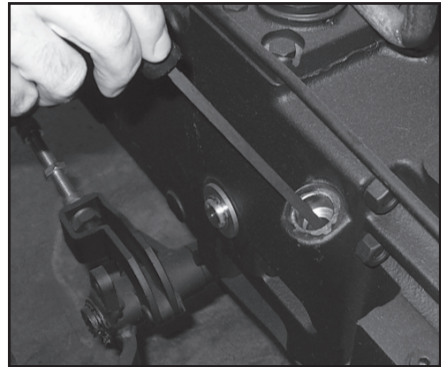

Fig. 6.10
- Replace the filtering elements (153).
- Check the oil level of the rear transmission unit (Fig.6.10), as described in the periodic maintenance instructions (Fig.6.9).